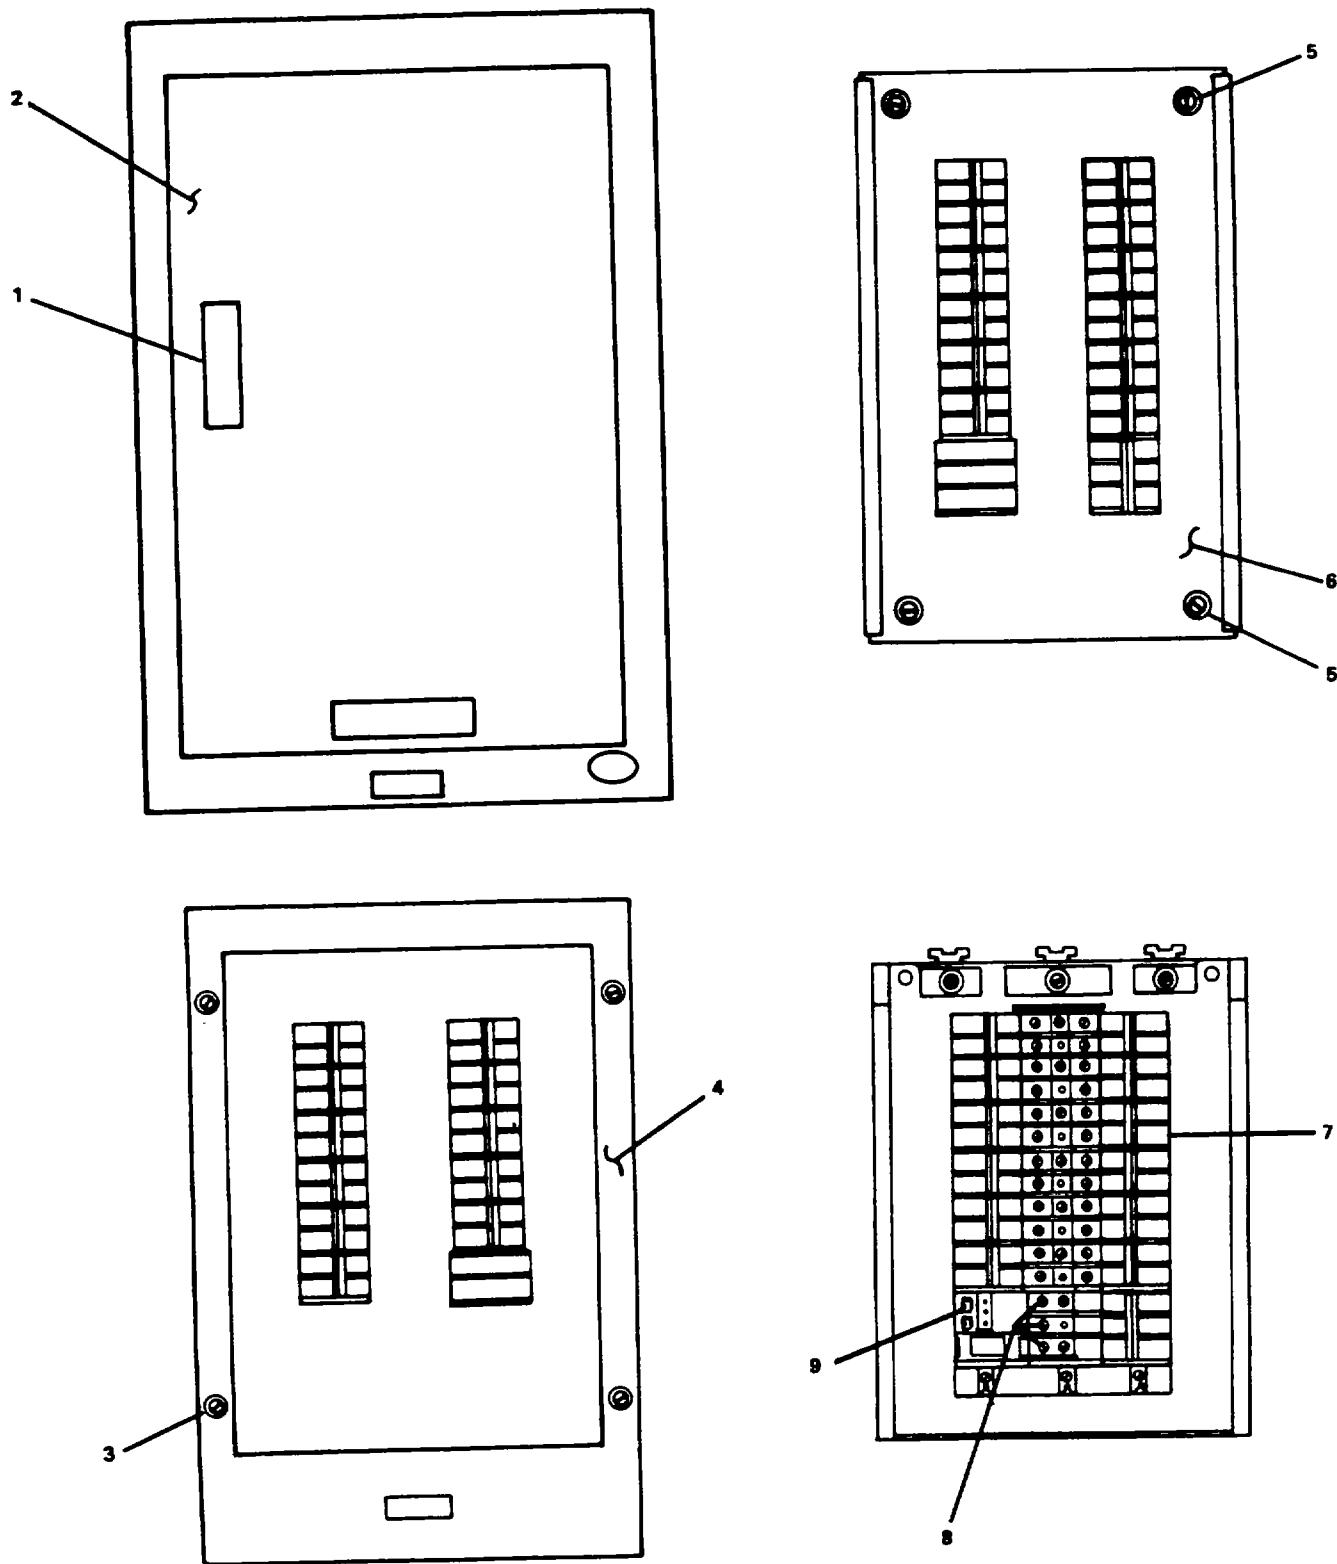

Figure 2-59. Repair Distribution Panel (Typical).
- a. Press key latch (1, Figure 2-59) and open door (2).
- b. Loosen four screws (3) and remove face panel (4) and door (2).
- c. Remove four screws (5) from inner-face panel (6). Remove panel.
- d. Tag and disconnect electrical wiring to circuit breakers (7).